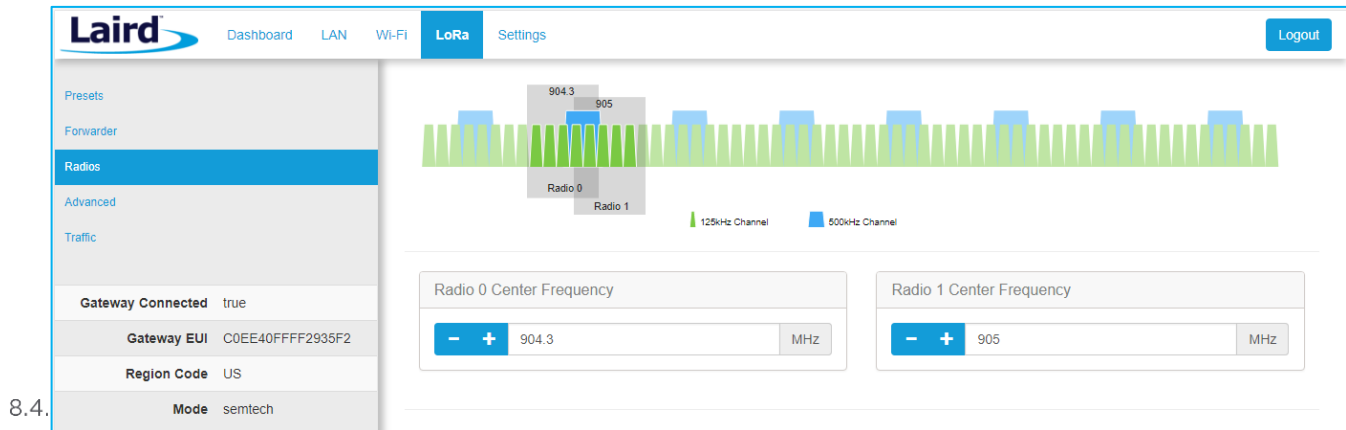

Figure 36: Channel assignments
8.4. Each radio is assigned a center frequency. Channels are then assigned to each radio and given an offset from the center (Figure 36).